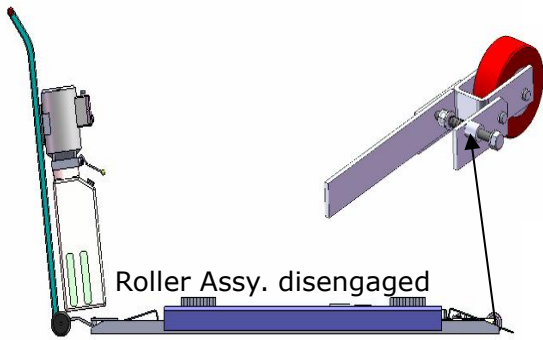

**Fig.14**
2. The roller must be disengage when lifting vehicle (**See Fig.16**). To raise and lock the lift: Press the button up till the lift is raised to the required height and the locks are in engaged (**See Fig.14**), then push release handle of the power unit, the lift would be locked.